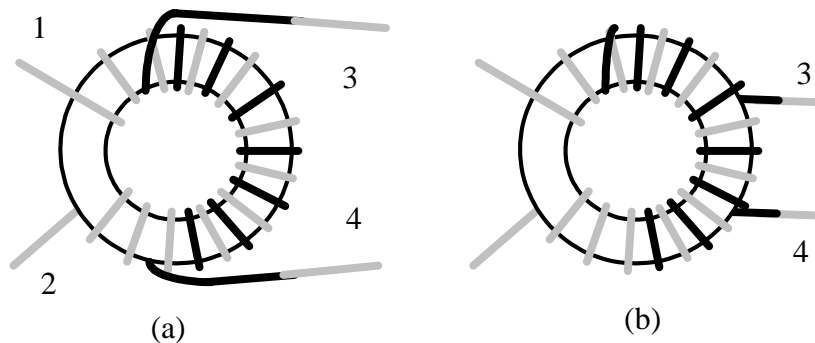

Figure 6-26
□ T2 is wound on the same core type as T1 (FT37-43). Its windings must be spaced as shown in **Figure 6-26(a)**, with the 3-4 winding occupying about half the diameter of the core. T2's 1-2 winding is 12 turns of red enamel wire (13", 33 cm), and its 3-4 winding is 8 turns of green (9", 23 cm).
□ Prepare T2's leads, but leave an extra 1/2" of insulation on leads 3 and 4 (green) as shown in **Figure 6-26(a)**.
□ Fold the leads of T2's green winding (3-4) down and under the core as shown in **Figure 6-26(b)**.